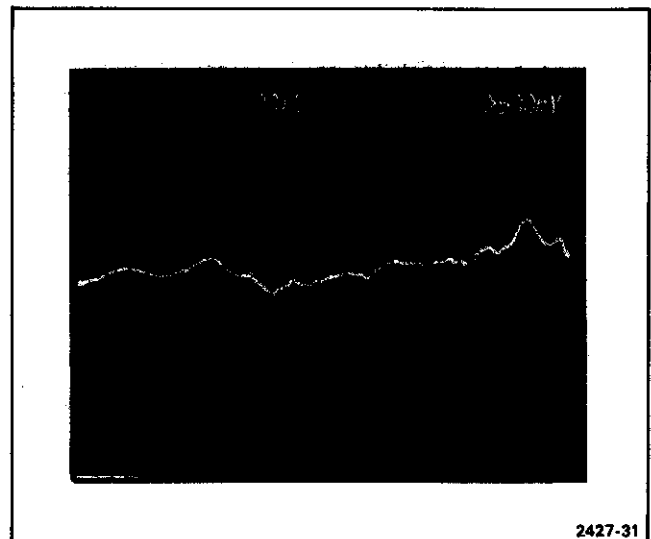

Figure 5-6. Display of frequency-response curve at 0.5 mV/Div.
h. Use the 7A22 Offset controls to position the frequency-response curve to the center of the display. Set the reference frequency marker to the center horizontal graticule line. Figure 5-6 shows this display.